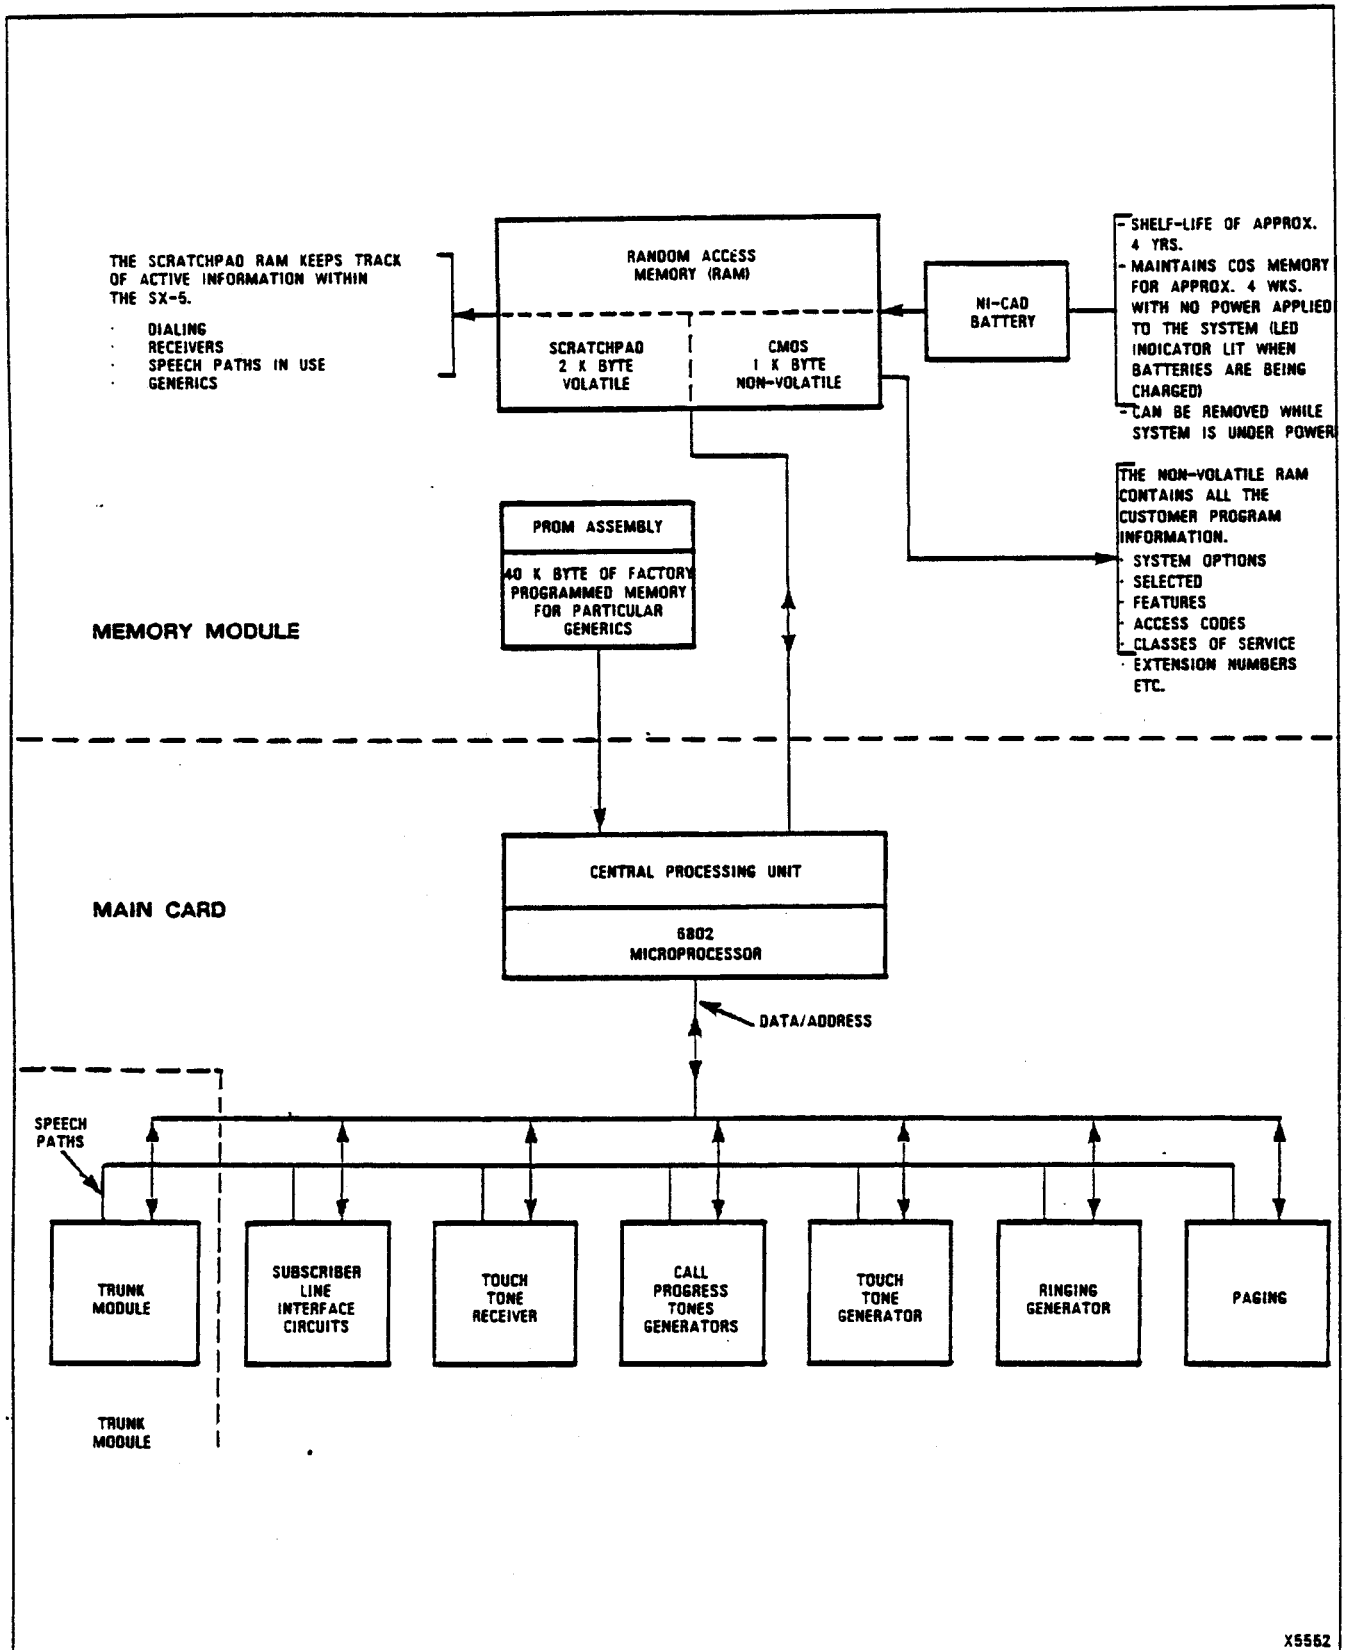

Fig. 9-1 SX-5 Data Flow Interconnection Diagram
**9.01** The following subsections give a basic technical description of the SX-5 Communications System. Fig. 9-1 should be consulted